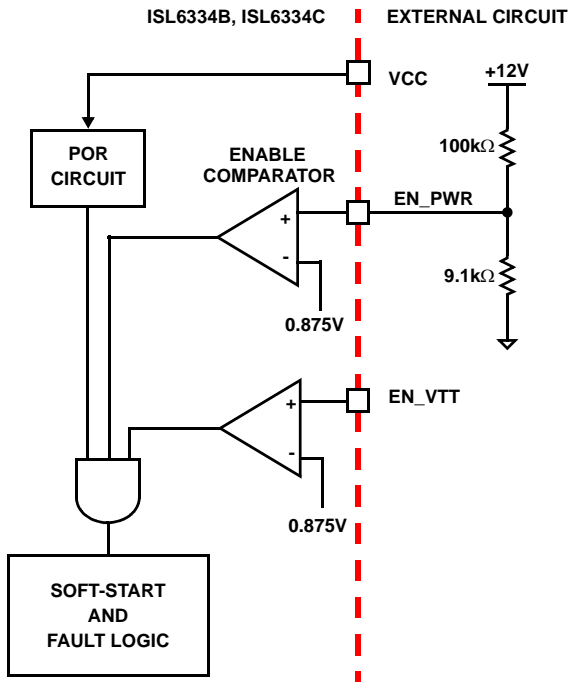

FIGURE 8. POWER SEQUENCING USING THRESHOLD-SENSITIVE ENABLE (EN) FUNCTION
2. The ISL6334B, ISL6334C features an enable input (EN\_PWR) for power sequencing between the controller bias voltage and another voltage rail. The enable comparator holds the ISL6334B, ISL6334C in shutdown until the voltage at EN\_PWR rises above 0.875V. The enable comparator has about 130mV of hysteresis to prevent bounce. It is important that the driver reach their POR level before the ISL6334B, ISL6334C becomes enabled. The schematic in Figure 8 demonstrates sequencing the ISL6334B, ISL6334C with the ISL66xx family of Intersil MOSFET drivers, which require 12V bias.